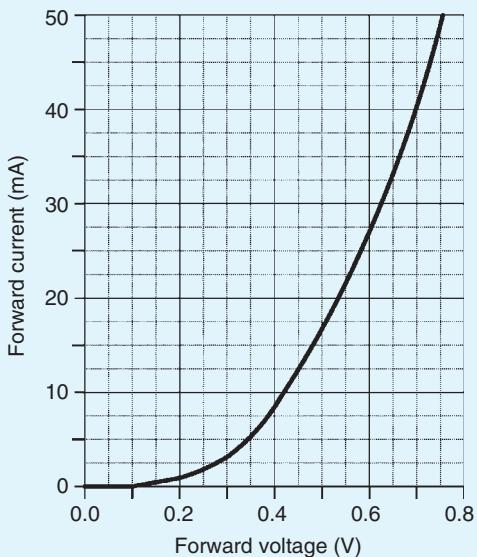

Figure 11.13
11. The graph shown in Fig. 11.13 was obtained during an experiment on a diode.